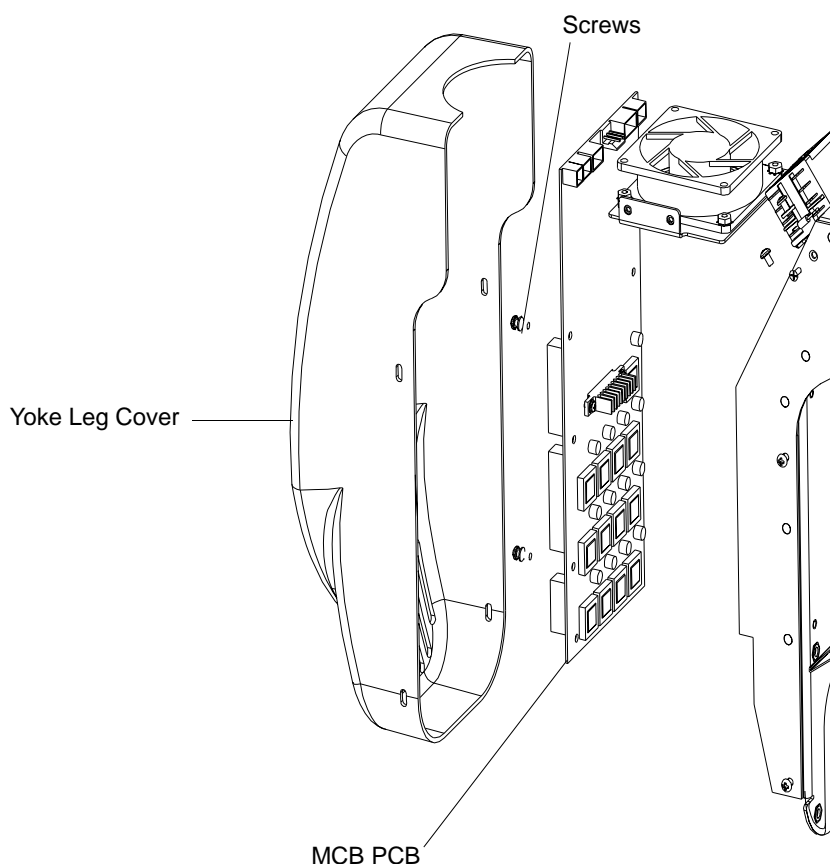

Figure 2-13: MCB PCB Replacement
- Step 2. At board-side leg, remove yoke leg cover by removing four 6-32×5/16" PTB screws as shown in Figure 2-13. To find board-side leg, refer to page 8.